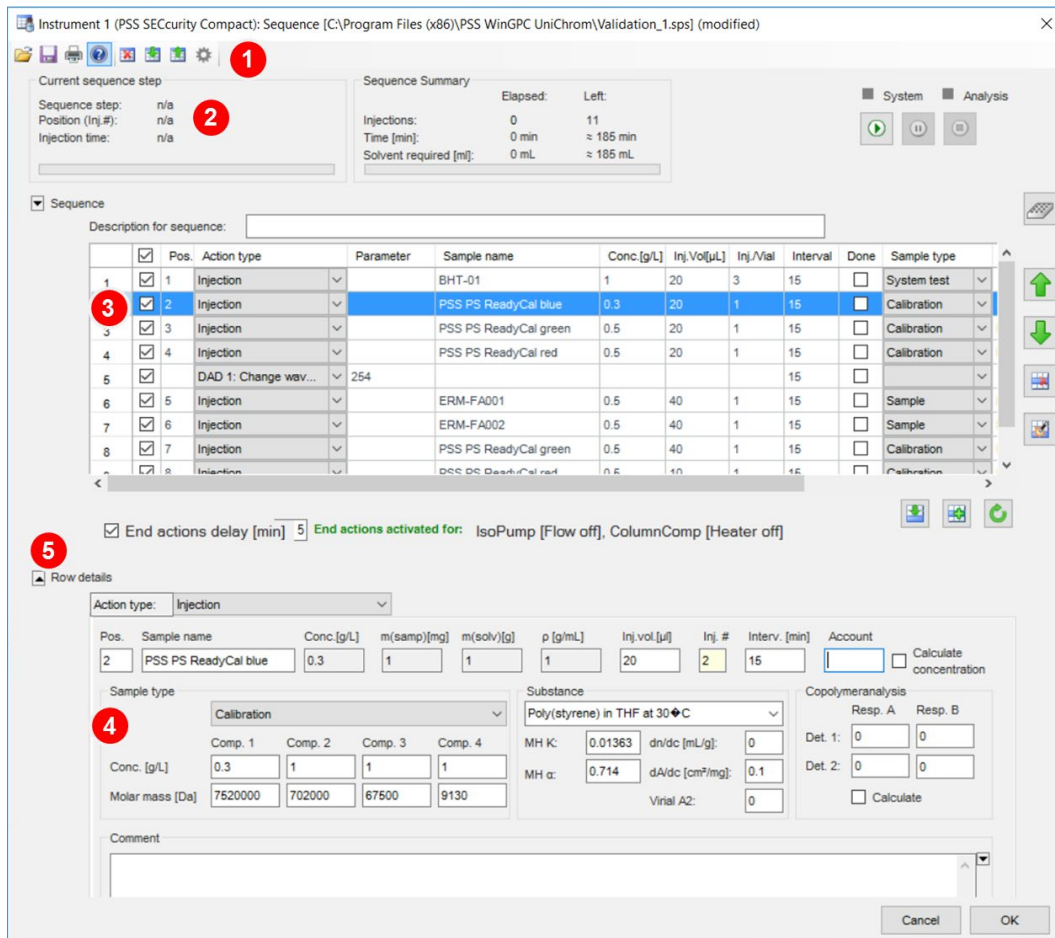

Figure 71 ChromPilot Sequence Manager
- The Icon bar (Figure 71, 1) offers different import, export and print functions as well as a Settings-button to set default parameters for interval and injection volume (see for details chapter “Sequence Manager Icon Bar” on page 490)
- A status area (Figure 71, 2) gives an overview on the current sequence step and sequence specific informations, e.g., summary about estimated/ elapsed time and solvent amount (see chapter “Sequence Manager Status Bar” on page 491).
- The Sequence table (Figure 71, 3) contains all sample information and (if applicable) programmed change conditions and sequence commands within the sequence (see chapter “Sequence Table” on page 492). Directly under the sequence table you will find the checkbox for activation of end actions, the delay time, and all selected end actions.
- An entry mask (Figure 71, 4) offers a detailed view on the currently selected sequence table row in order to ease the user input (see chapter “Creating a Sequence – Entering Sample Information” on page 495 and “Creating a Sequence – Using Change Conditions” on page 499).
If the Entry mask is not visible you have to click on the button for Row details (Figure 71, 5), which is located on the lower left side of the **Sequence Manager** window.